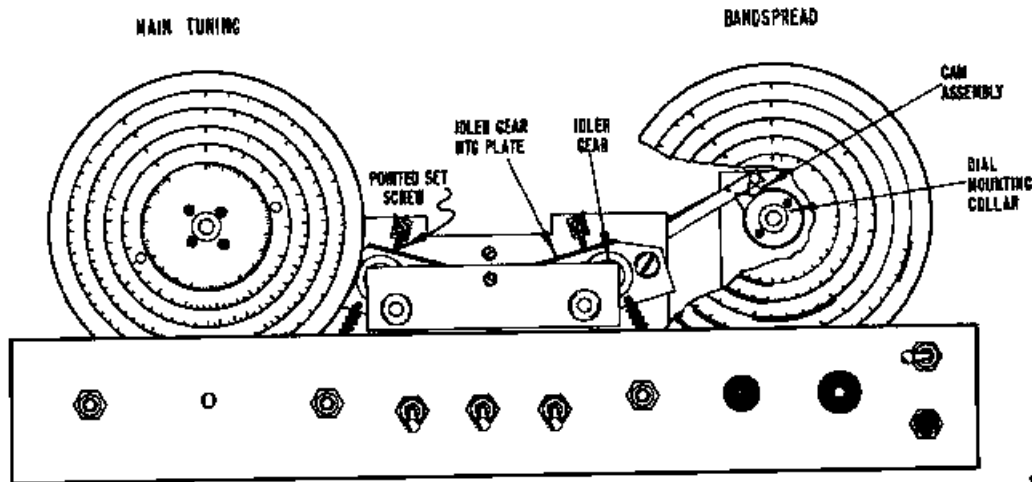

Fig. 14. Front View of Gear Drive Tuning Mechanism
front panel from the cabinet by removing the control knobs, the toggle switch and Phones jack mounting nuts, the Sensitivity control mounting nut, the two screws at each side of the front panel, and three screws on the underside of the front panel. Leave the bandspread dial in place but remove the main tuning dial to gain access to the pulley on the bandspread gang. This is accomplished as follows (Refer to Fig 14.): (1) Remove the two screws at the front of the dial. (2) Loosen the pointed set screw to the right of the dial. (3) Disengage the idler gear from the dial by lifting upward on the idler gear mounting plate and (4) Carefully remove the dial.
If the index marks at the low end of the bandspread dial are not vertical with the Bandspread control set fully clockwise: (Refer to Fig 14)
- 4 With the right hand, hold the cam assembly in the position shown in Fig 14, with the thumb of the left hand lift the idler gear mounting plate upward to disengage the dial, and with the index finger of the left hand carefully rotate the dial until the index marks at the low-frequency end are vertical. After the dial is properly positioned, reseat the idler gear and tighten the two set screws on the collar.
To replace the main tuning dial: (Refer to Fig 14)